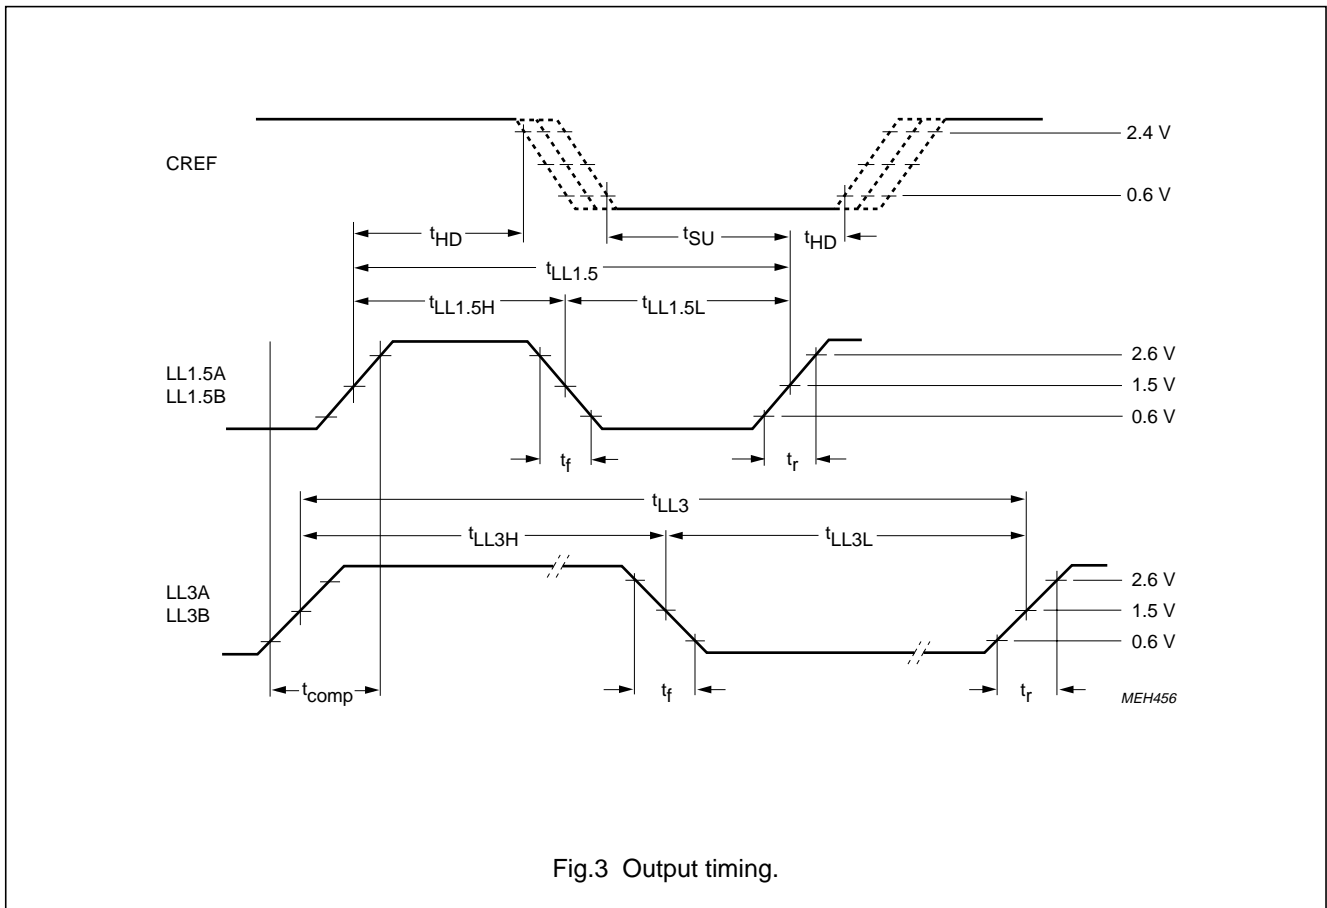

Fig.3 Output timing.
| $f_{CREF}$   | output frequency CREF                     | Fig.3                      | –       | $2 f_{LFCO(2)}$ |           | MHz                |
| $t_{SU}$   | set-up time                               | Fig.3; note 1              | 12      | –               | –         | ns                 |
| $t_{HD}$   | hold time                                 | Fig.3; note 1              | 4       | –               | –         | ns                 |
| $t_{comp}$   | composite rise time                                     | Fig.3; notes 1 and 2          | -    | -               | 8        | ns   |
| $f_{LL}$   | output frequency LL1.5A                                 | Fig.3                         | -    | $4 f_{LFCO(2)}$ |          | MHz  |
| $t_r, t_f$   | rise and fall times                                     | note 1; Fig.3                 | -    | -               | 5        | ns   |
| $t_{LL}$   | duty factor LL1.5A, LL1.5B, LL3A and LL3B (mean values) | note 1; Fig.3; at 1.5 V level | 43   | 50              | 57       | %    |
- $f_{LFCO} = 7.0 \text{ MHz}$  and output load  $40 \text{ pF}$  (Fig.3).  $V_{SSA}$  and  $V_{SSD}$  short connected together.
- $t_{comp}$  is the rise time from LOW of all clocks to HIGH of all clocks (Fig.3) including rise time, skew and jitter components. Measurements taken between 0.6 V and 2.6 V. Skew between two LLx clocks will not deviate more than  $\pm 2 \text{ ns}$  if output loads are matched within 20%.